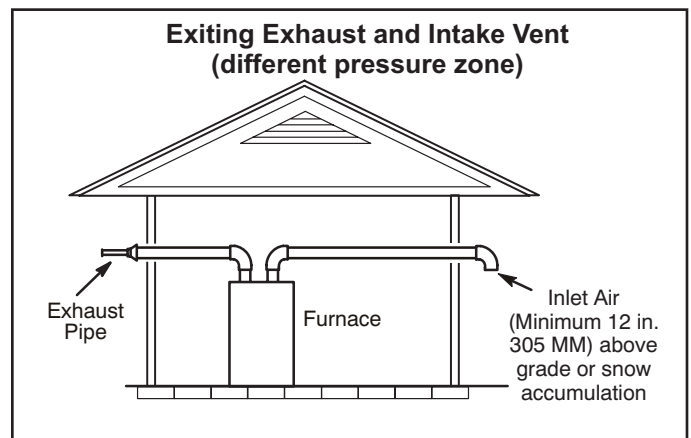
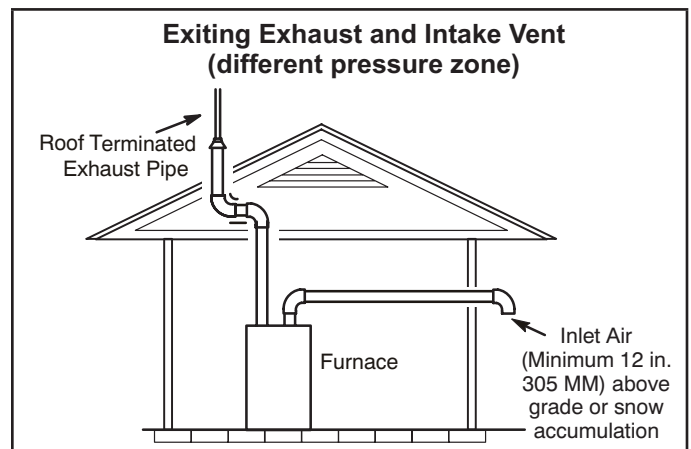

FIGURE 38
FIGURE 39
- 1 - Vent terminations are not required to be in the same pressure zone. You may exit the intake on one side of the structure and the exhaust on another side (FIGURE 38). You may exit the exhaust out the roof and the intake out the side of the structure (FIGURE 39).